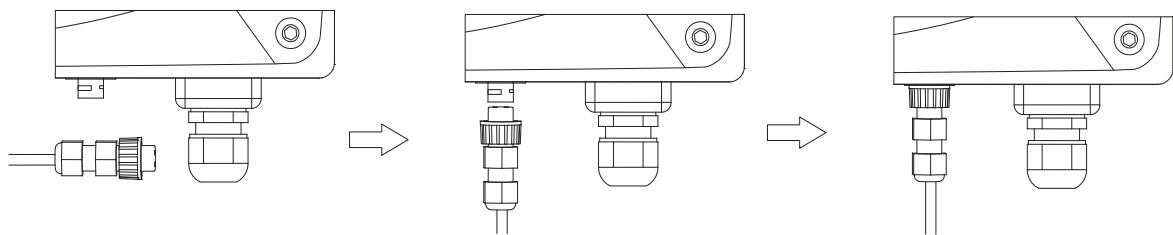

Figure 7.4 Detailed connection
- (1) Weld communication cables to the RS485 terminals of the inverter as Figure 7.4 shows. Ensure the cable corresponds to the pin as table 7-1 shows and the welding is tight enough.